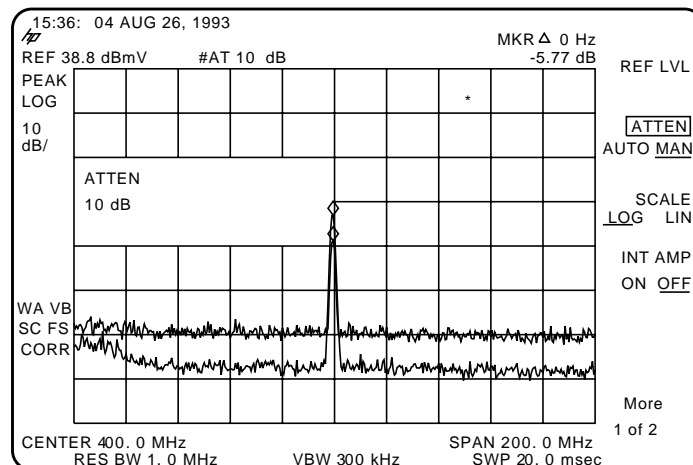

Figure 45 RF Attenuation of 10 dB
- 5 Next, increase the RF attenuation by 10 dB: press **(AMPLITUDE)**, **ATTEN AUTO MAN**, and the step-up key (**↑**) once. See Figure 45.
If the responses in trace A and trace B differ, as in Figure 45, then attenuation is required. If there is no change in the signal level, the distortion is not caused internally. For example, the signal amplitude in Figure 46 is not high enough to cause internal distortion in the spectrum analyzer so any distortion that is displayed is present on the input signal.